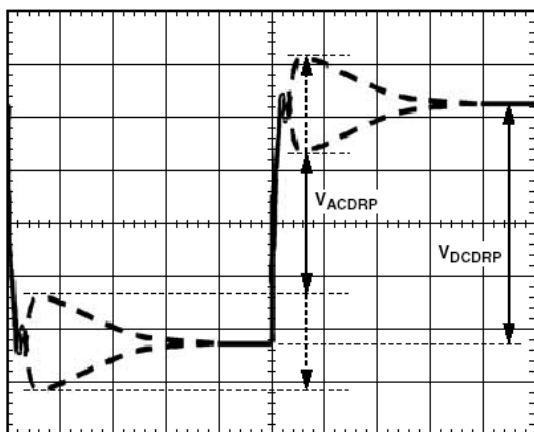

Figure 8. AC Loadline Waveform
15. You will see a waveform that looks something like Figure 8. Use the horizontal cursors to measure V_{ACDRP} and V_{DCDRP} as shown. DO NOT MEASURE THE UNDERSHOOT OR OVERSHOOT THAT HAPPENS IMMEDIATELY AFTER THE STEP.